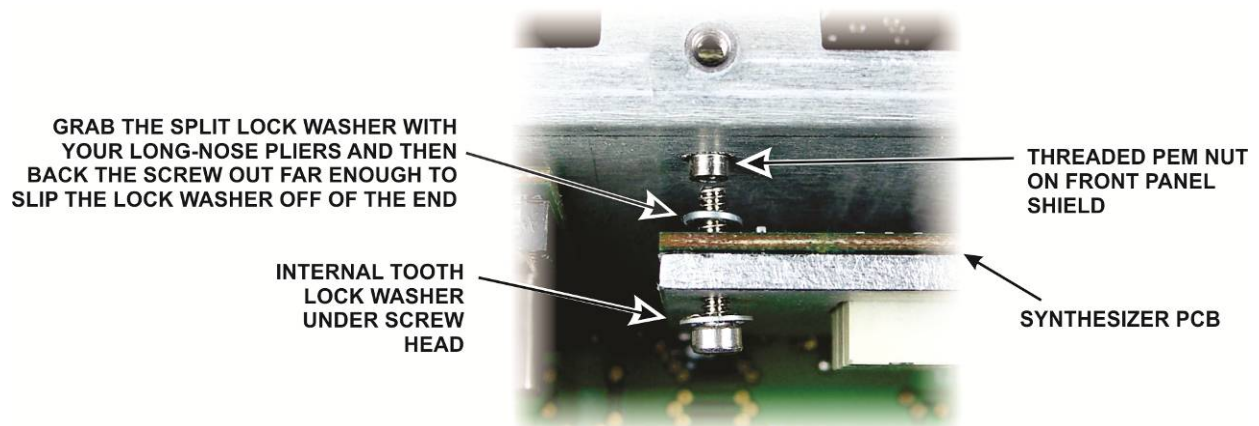
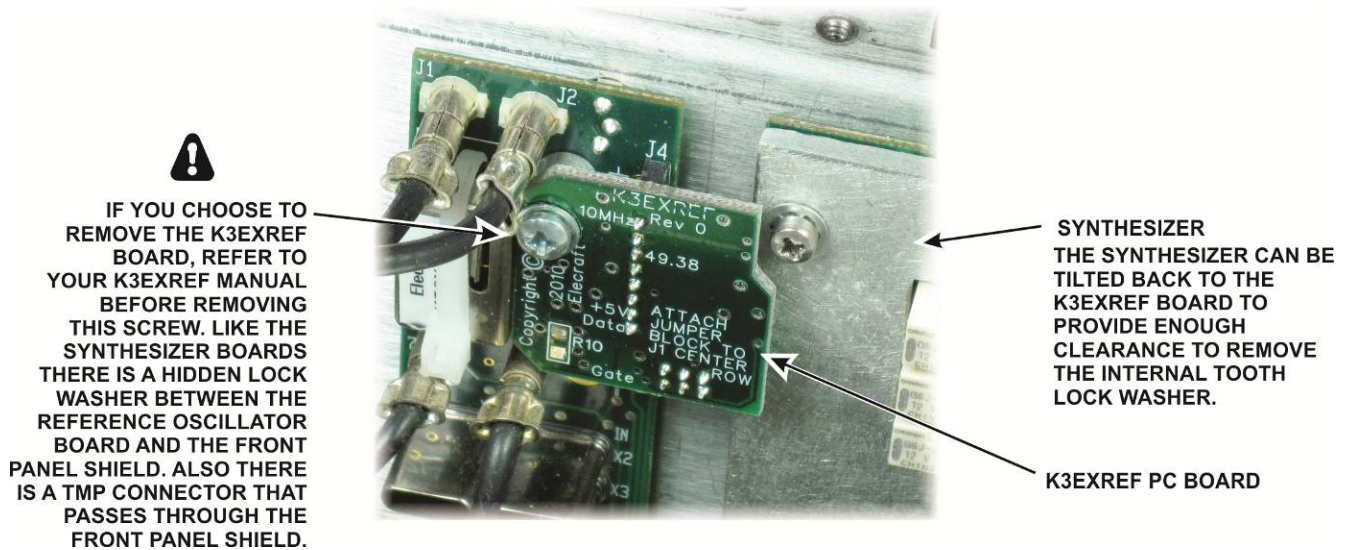

Figure 7. Removing Synthesizer Mounting Screws.
Figure 8. K3EXREF Board Option.
4. Small needle nose pliers or tweezers for holding small parts in tight spaces (see Figure 7 on page 12).
Loosen the two mounting screws at the top of the synthesizer board. Do not remove the screws completely until you have loosened both of them and located the lock washer between the pc board and the front panel shield. Slide the split-ring lock washer on each screw toward the pc board and then carefully finish unscrewing each screw (see Figure 7) Once the screw is clear of the threaded PEM nut on the front panel shield you can carefully grab the split ring lock washer with your needle nose pliers and remove it, then remove the screw and remaining lock washer. It helps to remove both screws a few turns at a time so you have the greatest amount of room to reach in and grab the lock washer while the other screw is still partially threaded into the PEM nut. If your K3 is equipped with the K3EXREF option, the distance you can pull the synthesizer away from the front panel shield is limited but there is still adequate clearance (see Figure 8).